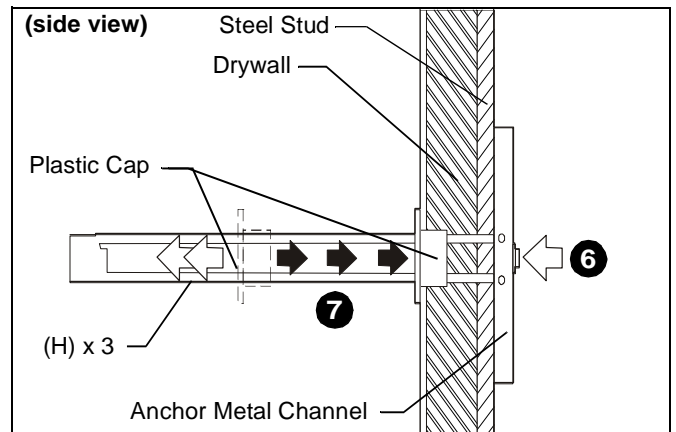

Figure 7
6. Holding plastic straps on anchor (H), pull anchor away from wall until channel rests flush behind wall making sure anchor channel is positioned vertically on stud. (See Figure 7)
7. Slide plastic cap on anchor (H) towards wall until flange of cap is flush with wall. (See Figure 7)